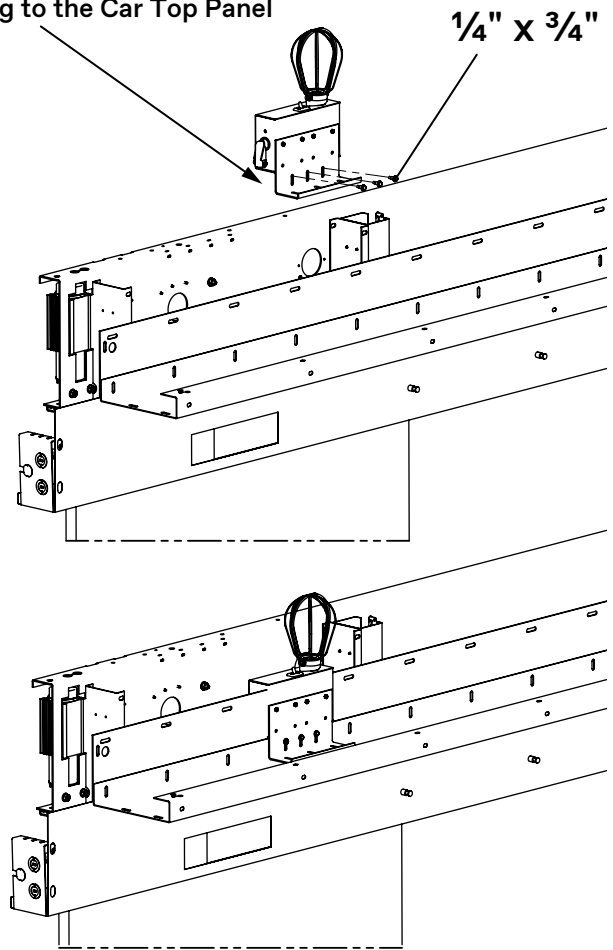

Figure 5 - Install the Car Top Light
11. Install the car top light. See Figure 5 on page 17.